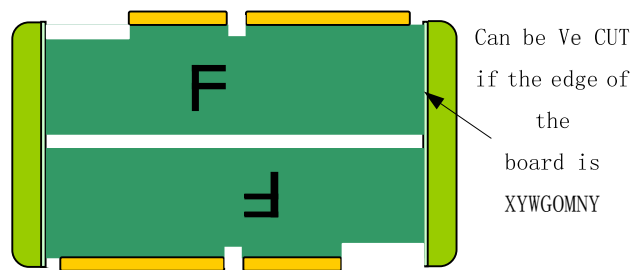

Figure 10: Recommended layout of PCBs with gold fingers.
- PCBs with gold finger connectors need to be positioned so that the fingers face outwards as shown in figure 10. This is necessary for the gold plating process.